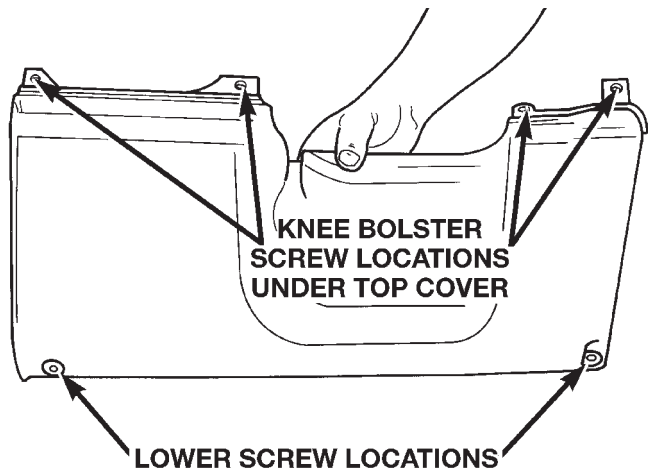
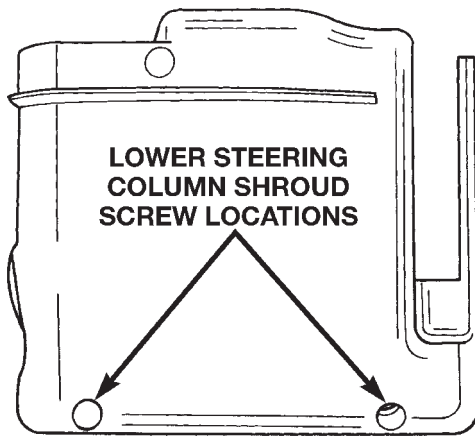

Fig. 22 Knee Bolster Attaching Points
Fig. 23 Lower Steering Column Shroud Screw Locations
- (9) Pull instrument panel top cover up enough to gain access to knee bolster screws (Fig. 22).
- (10) Remove lower knee bolster screws and knee bolster.
- (11) Remove screws from lower steering column shroud (Fig. 23).